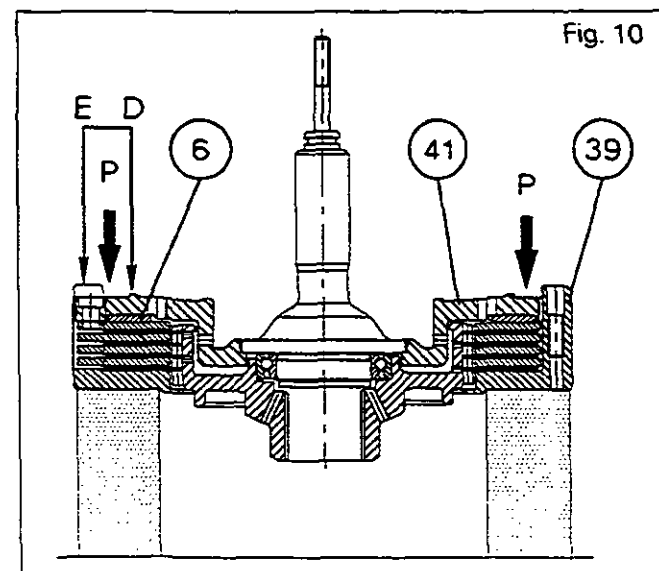

Fig. 10
47. Mount pressure plate (41) assembled in box (39) (Fig. 10).
49. Using the service tool Nr. 3378053M1 (§ F), apply pressure on P to compress the progressive washer (6) (Fig. 10).
50. Measure the distance between two diametrically opposed locations on D and E faces (Fig. 10). Compute both readings average (Belleville springs (4) outer diameter contacts D face).